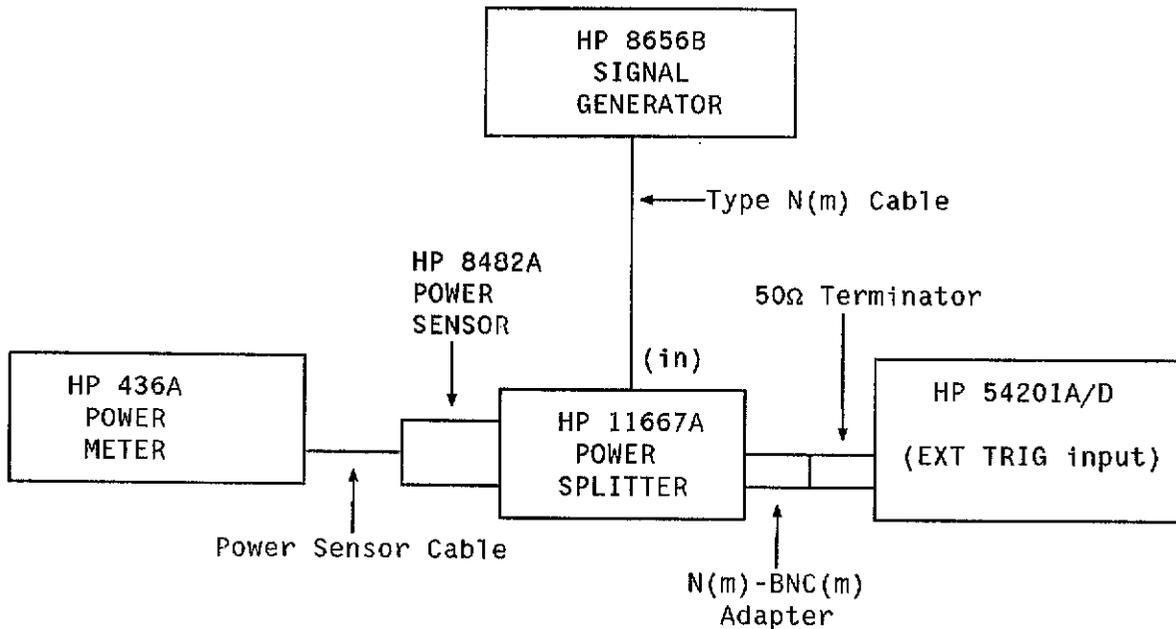

Figure 3-15. External Trigger Sensitivity Test Connections.
11. Connect test equipment as shown in figure 3-15, except without the 50 Ω terminator.
18. Connect test equipment as shown in figure 3-15.